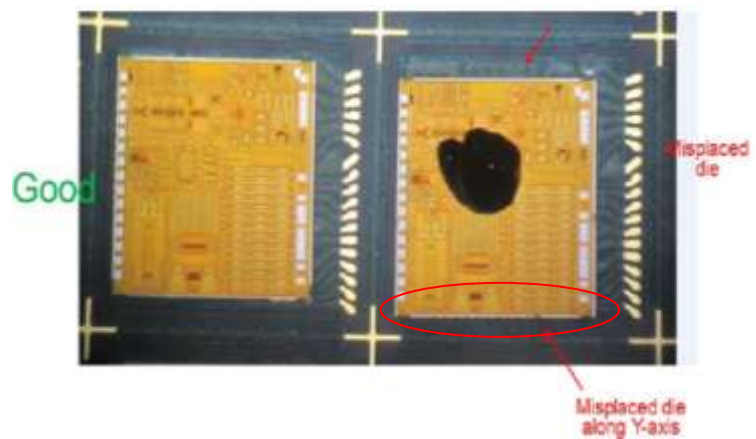

Fig. 3. Misaligned die placement.
- The issue of misaligned die placement is difficult to distinguish visually due to few micron difference as was encircled in Fig. 3.